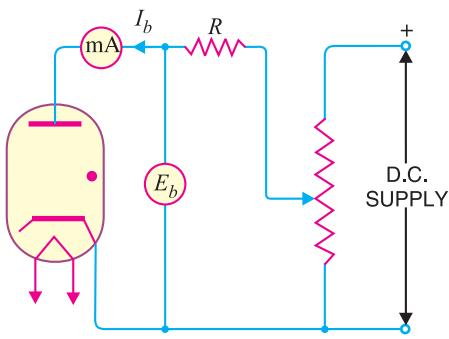
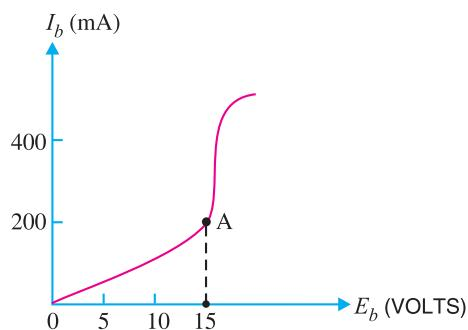

Fig. 3.10
Fig. 3.11
**Operation.** Fig. 3.10 shows a circuit that can be used to investigate the operation of a hot-cathode gas diode. When cathode is heated, a large number of electrons are emitted. At low anode-cathode voltage, the tube conducts very small current. Under such conditions, the gas is not ionised and the tube acts similar to a vacuum diode — the voltage across the tube increases with plate current. This action continues until anode-cathode voltage becomes equal to the ionisation potential of the gas. Once this potential is reached, the gas begins to ionise, creating free electrons and positive gas ions. The positive gas ions move towards the cathode and tend to neutralise the space charge, thus decreasing the internal resistance of the tube. If now the plate voltage is increased, the plate current also increases due to increased degree of ionisation. This further reduces the tube resistance. As a result, increase in plate current is offset by the decrease in tube resistance *and the voltage across the tube remains constant.* Therefore, in a hot-cathode gas diode, not only the internal drop within the
**Plate Characteristics.** Fig. 3.10 shows the circuit that can be used to determine the volt-ampere ( $E_b/I_b$ ) characteristics of a hot-cathode gas diode. The series resistance  $R$  is used to limit the current to reach a dangerously high value. Fig. 3.11 shows the plate characteristic of hot-cathode diode. It is clear that at first, plate current rises slowly with increase in anode-cathode voltage. However, at some voltage, known as ionisation voltage (point  $A$ ), the plate current rises sharply and the voltage drop across the tube remains constant. The extra voltage is dropped across the series resistance  $R$ . Any attempt to raise the anode-cathode voltage above the ionising value is fruitless. Increasing the voltage  $E_b$  above point  $A$  results in higher plate current ( $I_b$ ) and large drop across  $R$  but the voltage  $E_b$  across the tube remains constant.